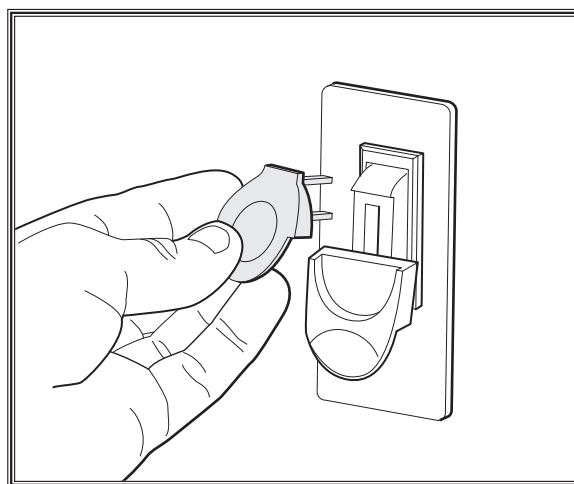

Figure 11. Removing switch key from paddle switch.
6. Remove the switch disabling key (see **Figure 11**).